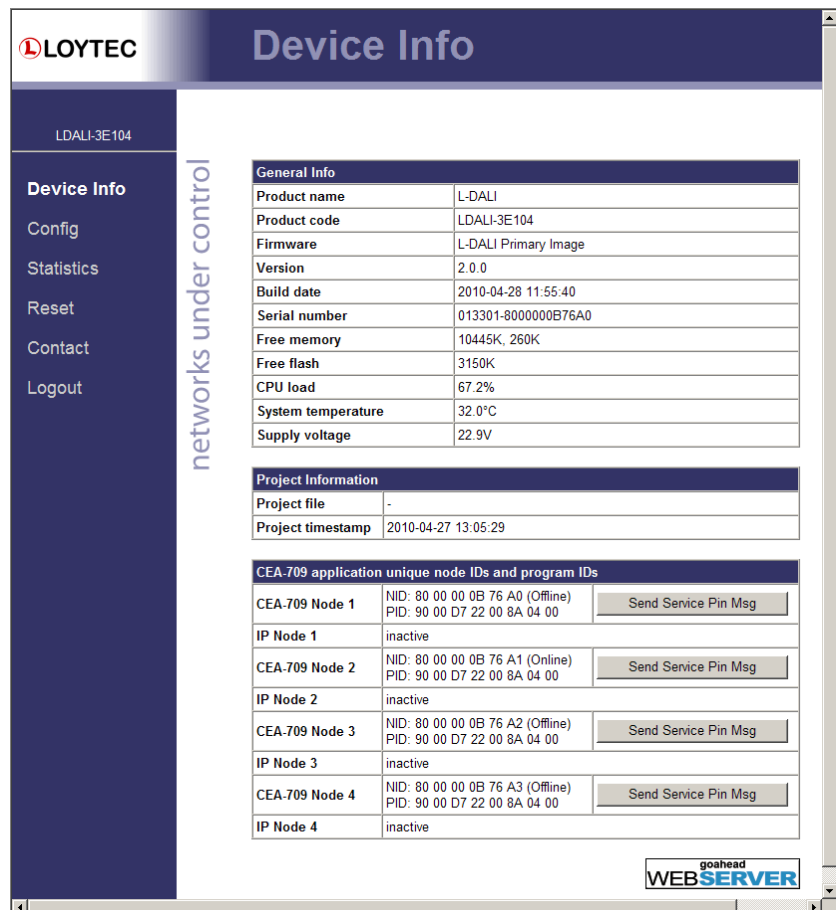

Figure 35: Device Information Page
5. The device information page should appear as shown in Figure 35.
7. Figure 35 shows the device information page for a LDALI-3E104 which has four DALI channels. In this example the CEA-709 protocol is enabled and the CEA-852 (CEA-709 over IP) protocol is disabled. Therefore the web page shows the four applications **CEA-709 Node 1, 2, 3, and 4** and displays their node IDs and program IDs. This page can also be used to send the CEA-709 service pin messages. This is a useful feature when commissioning the L-DALI, since it is not necessary to be on-site to press the device's status button. The applications **IP Node 1, 2, 3, and 4** are inactive because the CEA-852 protocol is disabled.